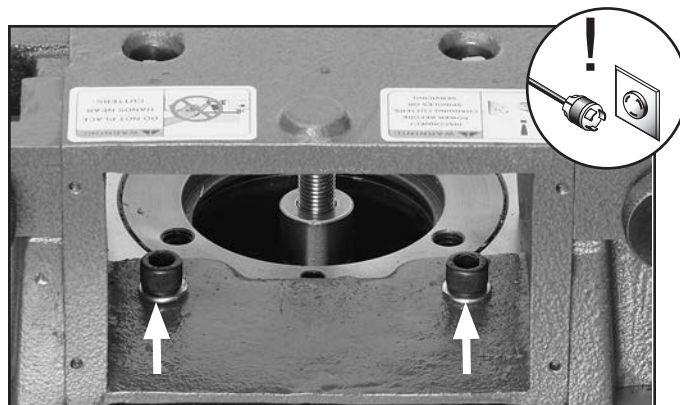

Figure 23. Fence assembly attachment location.
2. Attach the fence assembly to the table, as shown in **Figure 23**, with the cap screws and lock washers already mounted to the table.